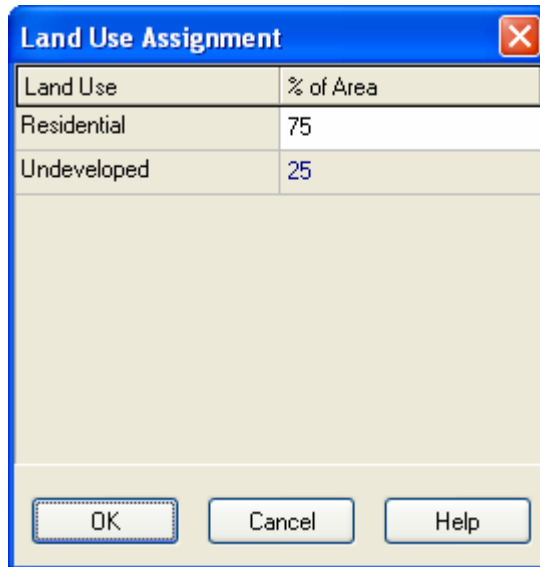

Figure 2-22. Land Use Assignment dialog.
3. In the Land Use Assignment dialog that appears, enter **75** for the % Residential and **25** for the % Undeveloped (see Figure 2-22). Then click the **OK** button to close the dialog.